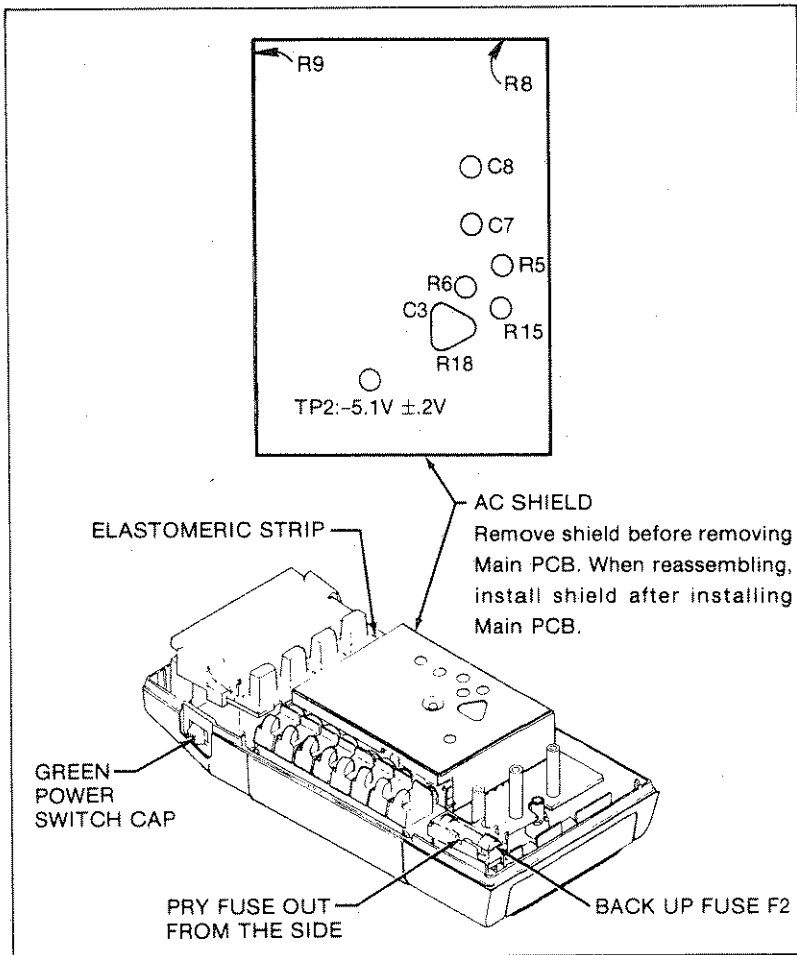

Figure 5-1. Calibration and Backup Fuse (F2) Access
3. Turn the instrument face-up and grasp the top cover at both sides of the input connectors. Then pull the top cover from the unit. The backup fuse and the calibration adjustments are now accessible (Figure 5-1).
**The function buttons below the display are part of a single elastomeric strip (Figure 5-1) that is held in place by the top cover. When the top cover is removed, the elastomeric strip will be loose and**
2. Use a flat-tipped screwdriver to pry the fuse out of its fuse holder. Pry the fuse from the side as indicated in Figure 5-1.